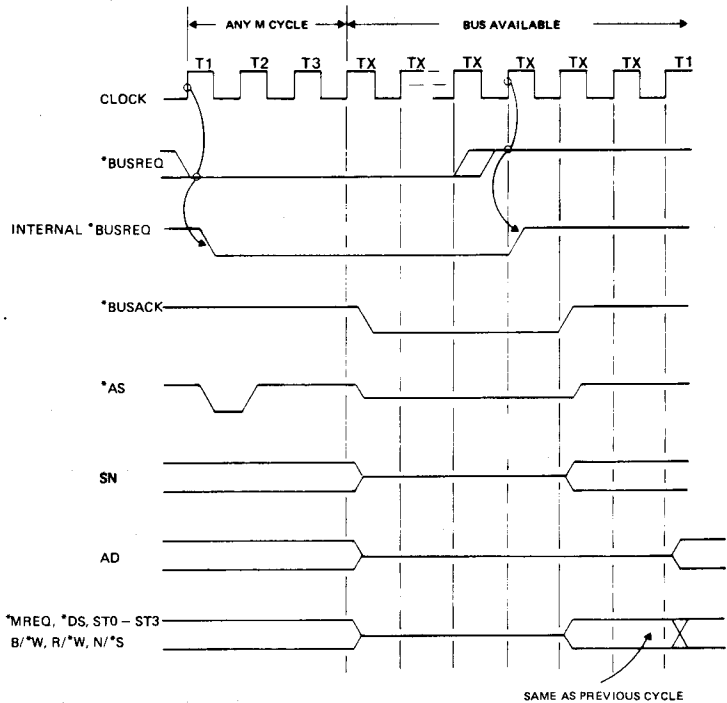

Fig. 2-17 Bus Request/Acknowledge Timing
**Bus Request/Acknowledge** - Figure 2-17 shows the bus request/acknowledge timing for the Z8001.